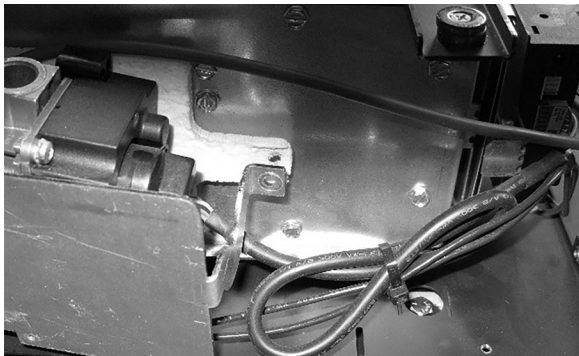

Figure 3
3. The valve bracket is still secured by a third screw, without removing this screw, the valve bracket and valve can be pulled down approximately $\frac{1}{2}$ " (12mm) as shown in **Figure 3**.